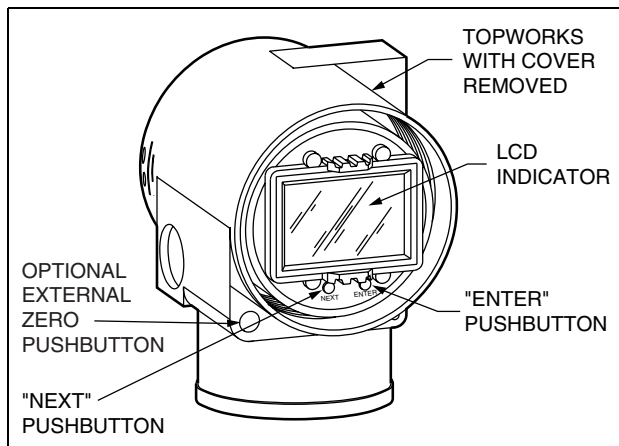

Figure 17. LCD Indicator with Pushbuttons
**Optional LCD Digital Indicator (Figure 17)**
An external pushbutton mechanism is isolated from the electronics compartment and magnetically activates an internal reed switch through the housing. This eliminates a potential leak path for moisture or contaminants to get into the electronics compartment. This external zero adjustment can be disabled by a configuration selection. See Figure 17.